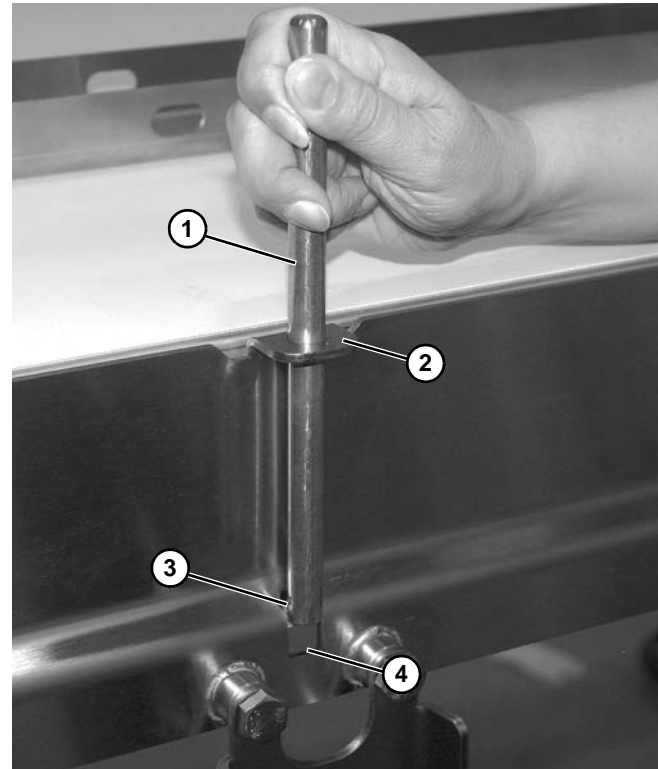

Figure 35
1. Install guide post (Figure 35, item 1) through conveyor side frame tab (Figure 35, item 2), making sure slotted portion (Figure 35, item 3) of post is fully seated into the bottom (Figure 35, item 4) of frame. Tap to lock in place.